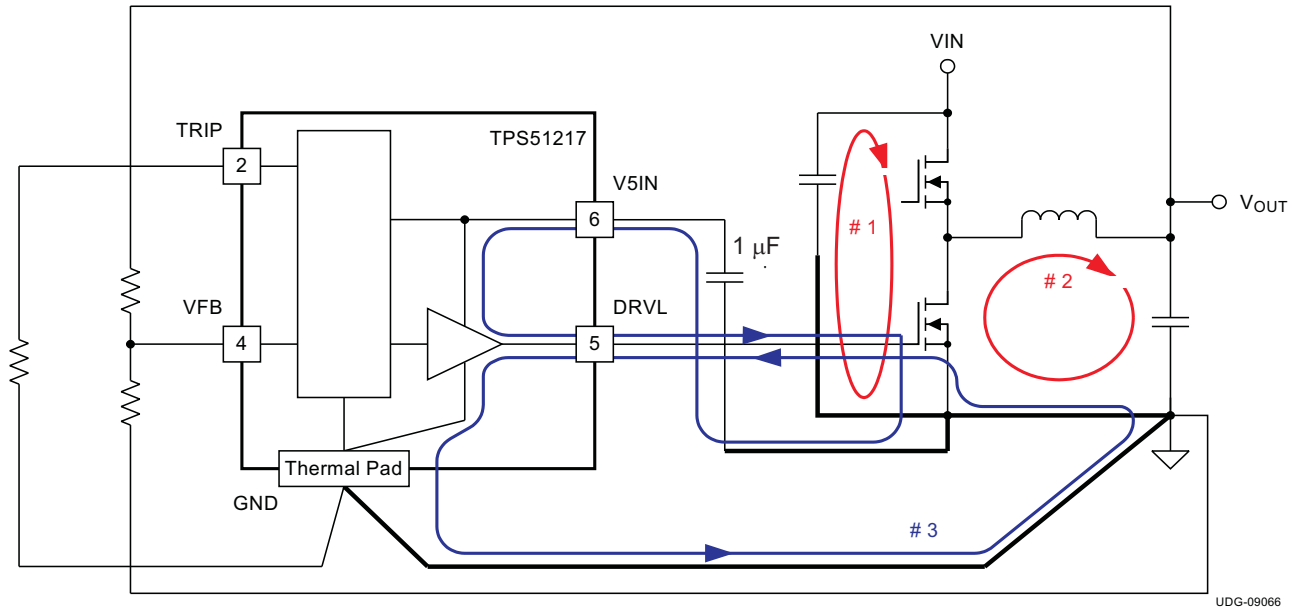

Figure 24. Ground System of DC/DC Converter Using the TPS51217
- The most important loop to minimize the area of is the path from the V_{IN} capacitor(s) through the high and low-side MOSFETs, and back to the capacitor(s) through ground. Connect the negative node of the V_{IN} capacitor(s) and the source of the low-side MOSFET at ground as close as possible. (Refer to loop #1 of Figure 24)
- The second important loop is the path from the low-side MOSFET through inductor and V_{OUT} capacitor(s), and back to source of the low-side MOSFET through ground. Connect source of the low-side MOSFET and negative node of V_{OUT} capacitor(s) at ground as close as possible. (See loop #2 of Figure 24)
low-side MOSFET and GND pad of the device at ground as close as possible. (Refer to loop #3 of Figure 24)